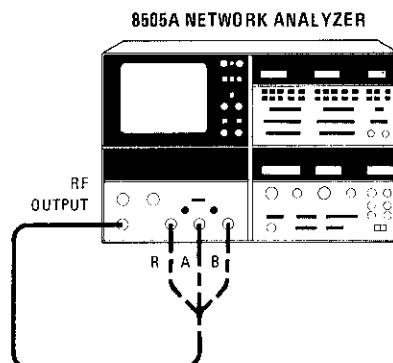

Figure A5-27. Absolute Magnitude Test Setup
- b. Connect equipment as shown in Figure A5-27 with RF OUTPUT connected to INPUT "R".